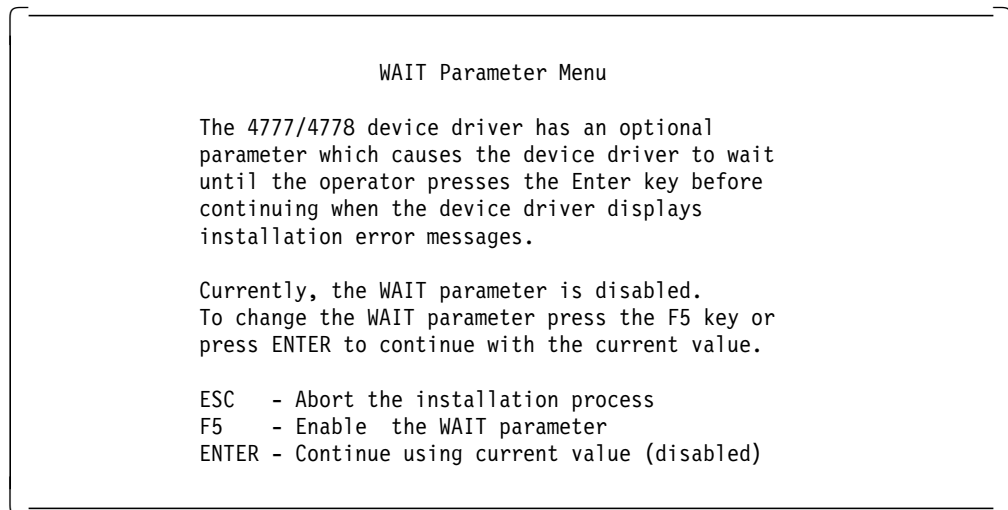

Figure 67. WAIT Parameter Menu
5. After selecting the desired option press Enter and Figure 67 on page 120 will be displayed.